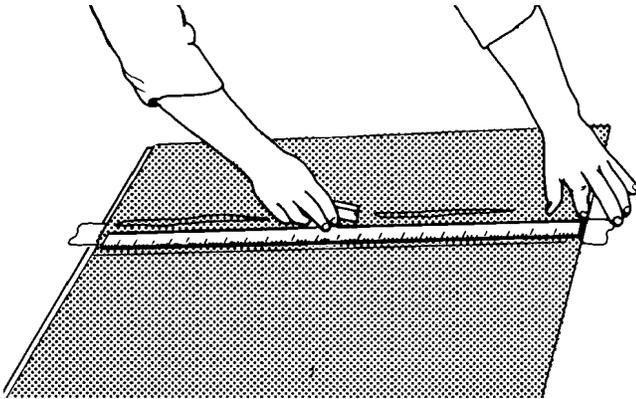

Figure 9. Cutting Through Two Layers of Film
- Using a sharp knife or razor in a safety holder and a straight edge, cut along the entire length of the overlap through both layers of film. See Figure 9.